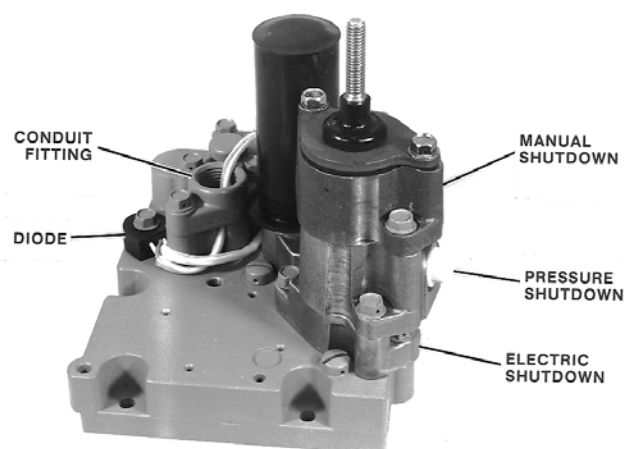

Figure 2-5. Electric Shutdown Device with Manual Shutdown and Pressure Shutdown
2. Refer to Figures 2-5 (Electric Shutdown Device with Manual and Pressure Shutdown), 4-1 (Parts for ETS Electric Shutdown Device), and 4-2 (Parts for ETR Electric Shutdown Device). Place gasket (5) on the governor cover. Place the Electric Shutdown Device on the cover and secure it with three screws.
3. Attach the diode (16) to the cover as shown in Figure 2-5. Thread the electrical leads from the diode up through the conduit fitting on the cover.